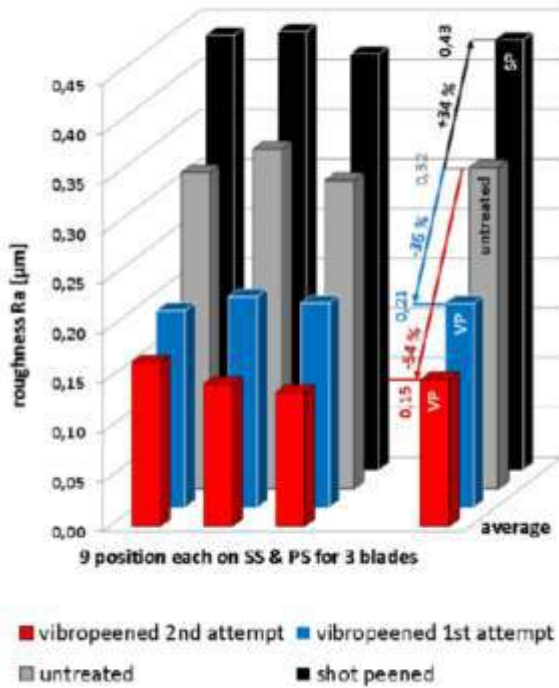

Fig. 5: roughness values for different treatments [2]
**Roughness:** Roughness was measured with a tactile measurement system from Mahr. The roughness requirement targeted in this application is  $Ra \leq 0,25 \mu\text{m}$ . As shown in Fig 5 the input roughness after passing the process chain before the mechanical surface treatment is an average of  $Ra = 0,32 \mu\text{m}$ . Shot peening increases the roughness to  $Ra \approx 0,43 \mu\text{m}$  which leads to the need of the additional roughness reducing process step vibropolishing which decreases the roughness below the requirement. Vibropeening decreases the roughness comparable to vibrofinishing below the requirement. This is caused by a combination of the above mentioned *peening* and *burnishing effect*. Another investigation shows with increasing dumping heights a treatment time reduction accompanies to reach the required roughness.